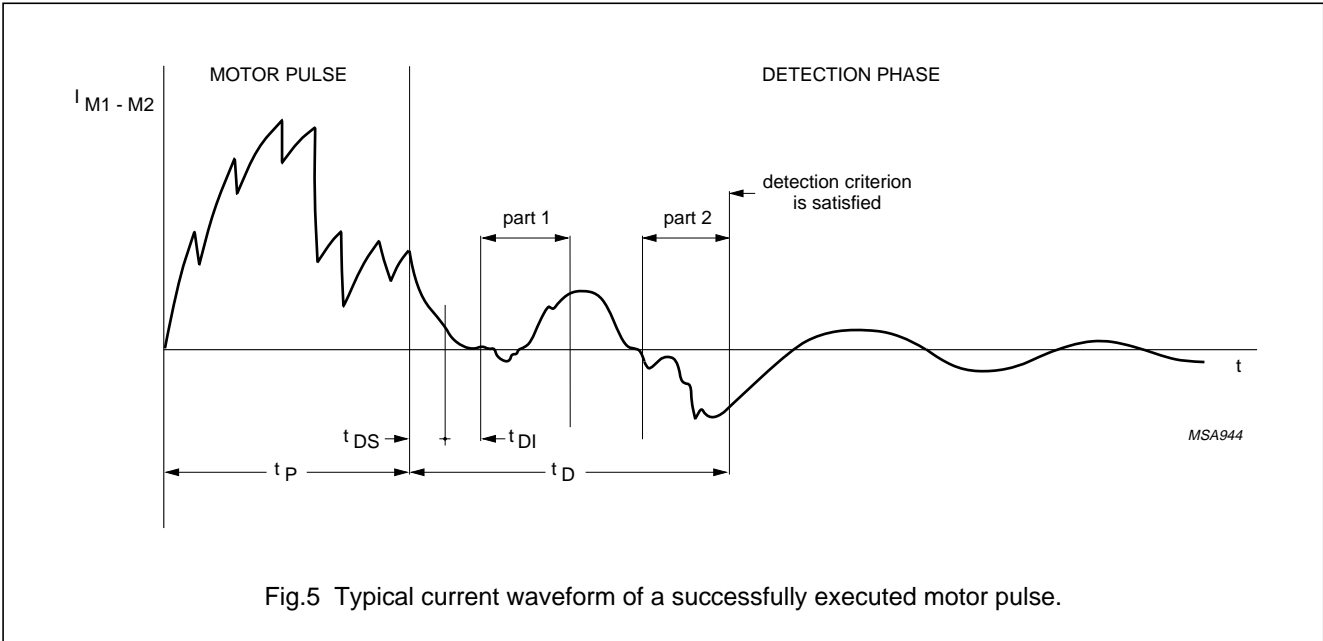

Fig.5 Typical current waveform of a successfully executed motor pulse.
The PCA148x uses current detection in two defined parts of the detection phase to determine if the motor has moved (refer to Figs 5 and 6). The detection criteria are:
- Minimum value of $N = 2$; where $N =$ number of measured positive current polarities since the first negative current polarity after part 1 was detected (see Fig.5).